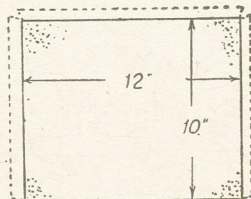
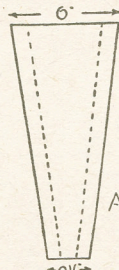

Fig. 1—A suggested size
Fig. 2—End flaps
Fig. 1 shows a suggested size, the dimensions being given only when no almanac is available. Otherwise the dimensions of Fig. 1 should be the same as those of the almanac to be made use of. Cut two of Fig. 1 and cut, from plain or
From the linen or lining material mentioned, cut two gussets to the shape at (A) in Fig. 2. Width at top and bottom are given, the length will be the same width at Fig. 1, or whatever the almanac measures, plus $\frac{1}{2}$ in. at top and 1in. at bottom. The $\frac{1}{2}$ in. at top is folded over and either glued or stitched down.
The detail sketch (B) in Fig. 2 will show the foregoing details and make all